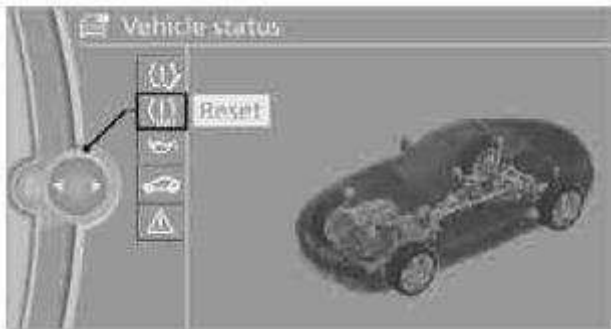

Fig. 22: iDrive Showing Tire Monitor "Reset"
6. Start the initialization using "Reset". See **Fig. 22**.